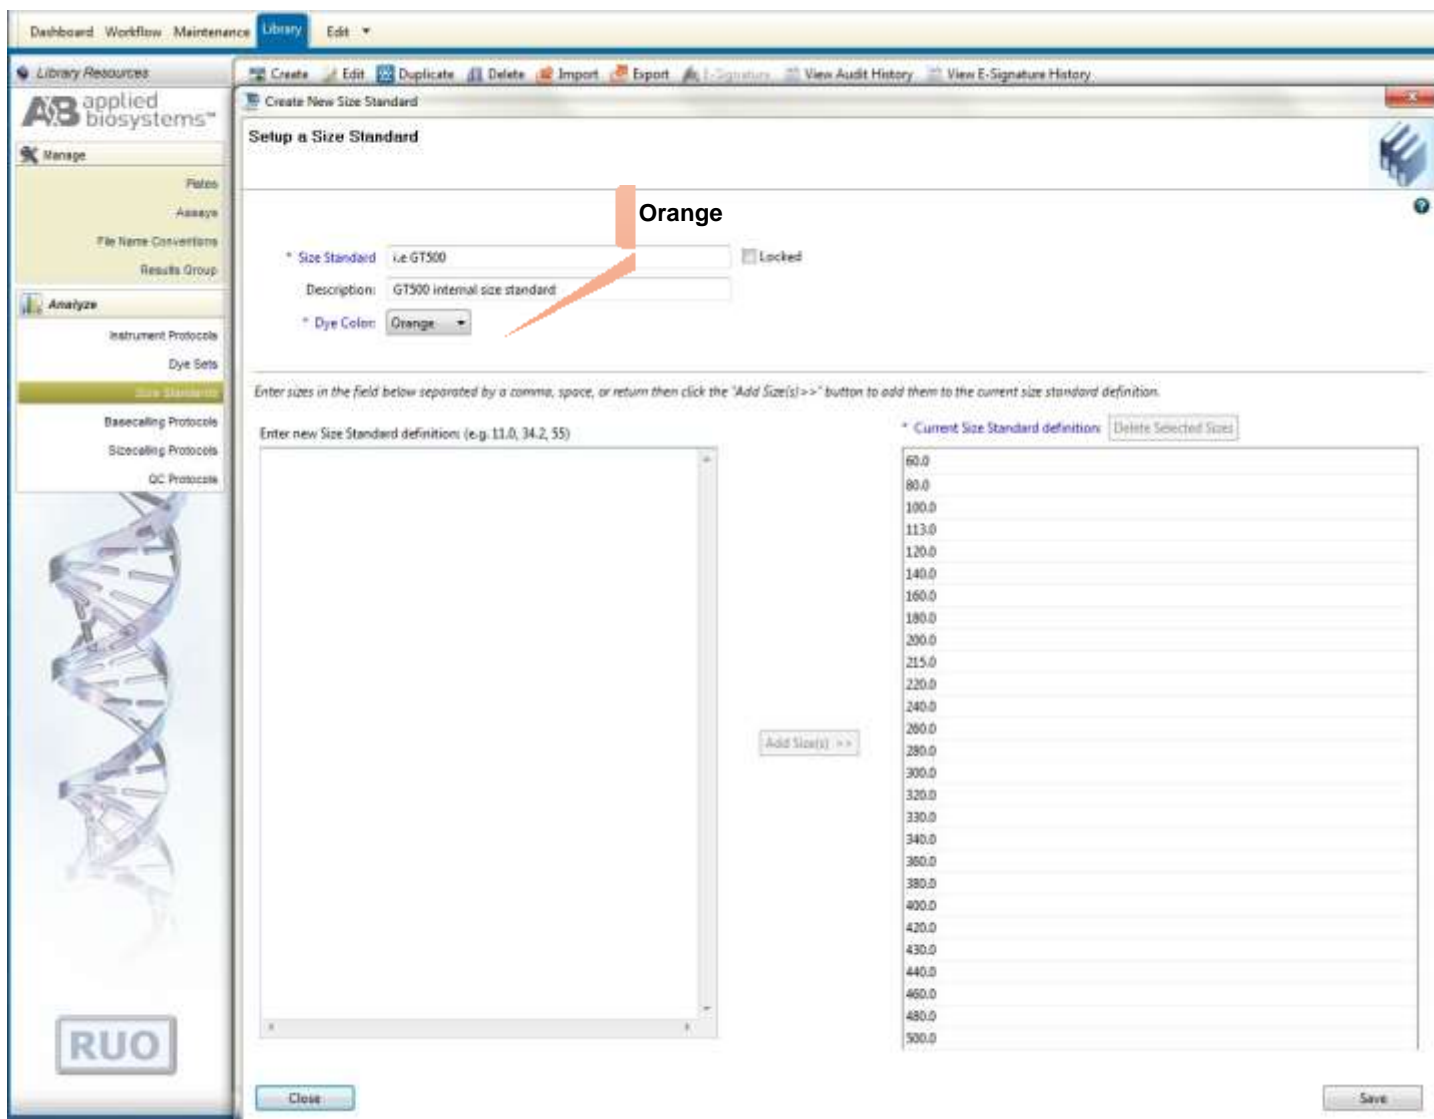

Figure 6. Screenshot for the “Create New Size Standard” window on Applied Biosystems 3500 Data Collection software
- c) Select “Create” (Figure 6)
Users can select settings as shown in the Figure 6 or alternatively may define these settings based on internal validation condition for GT Detector on the Applied Biosystems® 3500/3500xL Genetic Analyzer.